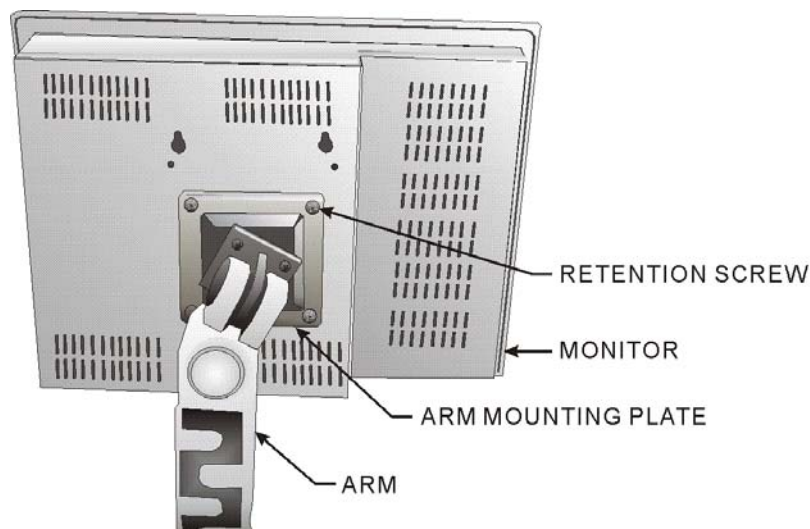

Figure 5-23: Monitor Arm Mounting
- Step 2:** Secure the monitor to the arm with the supplied retention screws (**Figure 5-23**).